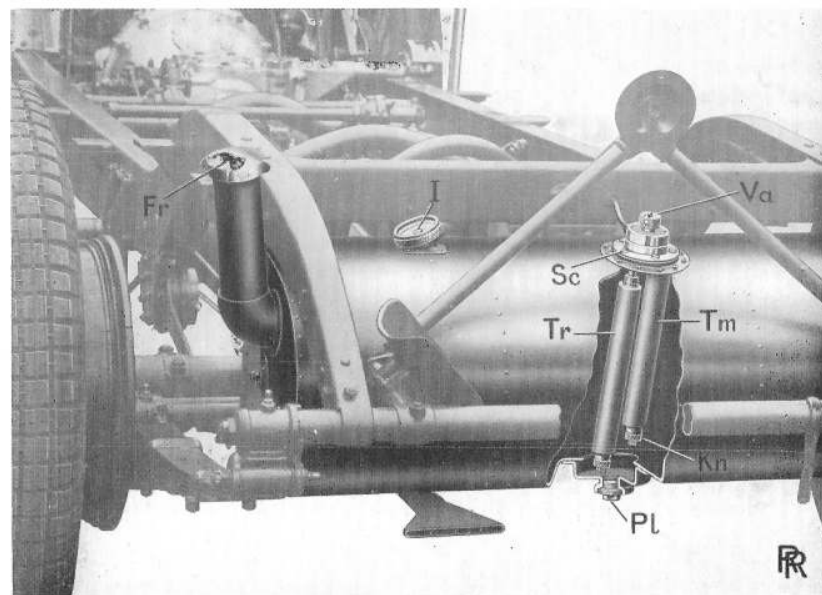

FIG. 22. PETROL TANK.
In Fig. 22 the "reserve" filter is shown in section in order to make clear how removal of the gauze is effected for cleaning.
**Petrol Tank with Reserve Supply.** The petrol tank shown in Fig. 22 is provided with a reserve supply of two gallons. Its total capacity is fourteen gallons.